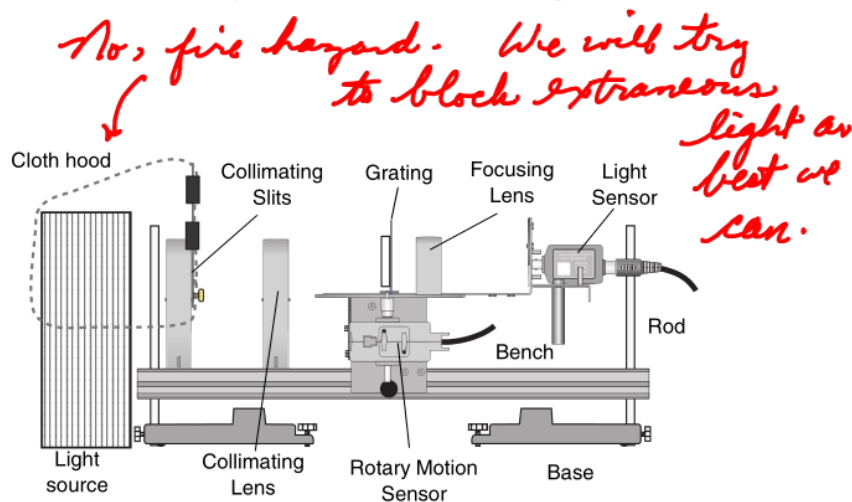

Figure 1.2: Equipment Setup
1. Set up the Spectrophotometer next to a mercury vapor light source as shown (Fig. 1.2). If needed, use the Rod Stand Mounting Clamps, two rods, and two bases to raise the Spectrophotometer to the same level as the opening to the light source. (Refer to the Introduction for more information.)